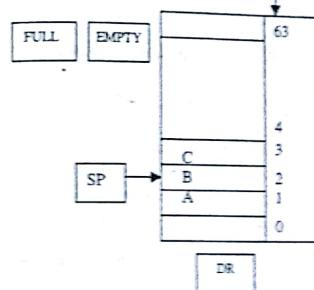

Fig. 24
A stack is actually a storage device that stores information. In a stack, information are stored in such a manner that the last item stored in a stack is the first one to be retrieved from the stack. In a stack, only one information can be accessed at a time. A set of registers constitutes a stack. A stack is called a LIFO or last-in, first-out list (also known as a pushdown list), as the last item stored in the stack is the first item to be retrieved. Stack can be organized with multiple contiguous memory registers and it is then known as memory stack or can be organized using CPU registers, then known as register stack. Stack Pointer (SP) is a register whose value always points at the top item in stack i.e. SP always holds the address for the stack. The two basic operations that can be performed on a stack are the insertion and deletion of items. In the insertion operation, which is also known as push, information is stored in the top of stack (TOS) position in the stack and in the deletion operation, known as pop, information from the TOS is retrieved. Figure 24 shows a 64-word stack organization. The stack grows upward from location 0 to location 63, which is the final TOS. On addition of every new element, the TOS value is incremented by one until the stack is full, marked by  $\text{FULL} \leftarrow 1$  ( $\text{FULL}$  is a flip-flop which is 1 when the stack is full and  $\text{EMTY}$  is a flip-flop which is 1 when the stack is empty). The first element is pushed in the stack at the  $\text{SP} \leftarrow 1$  location i.e. the first location. So when  $\text{SP} \leftarrow 0$ , it means that the stack is full and hence  $\text{FULL}$  is 1. So  $\text{EMTY}$  is 0 i.e. stack not empty.